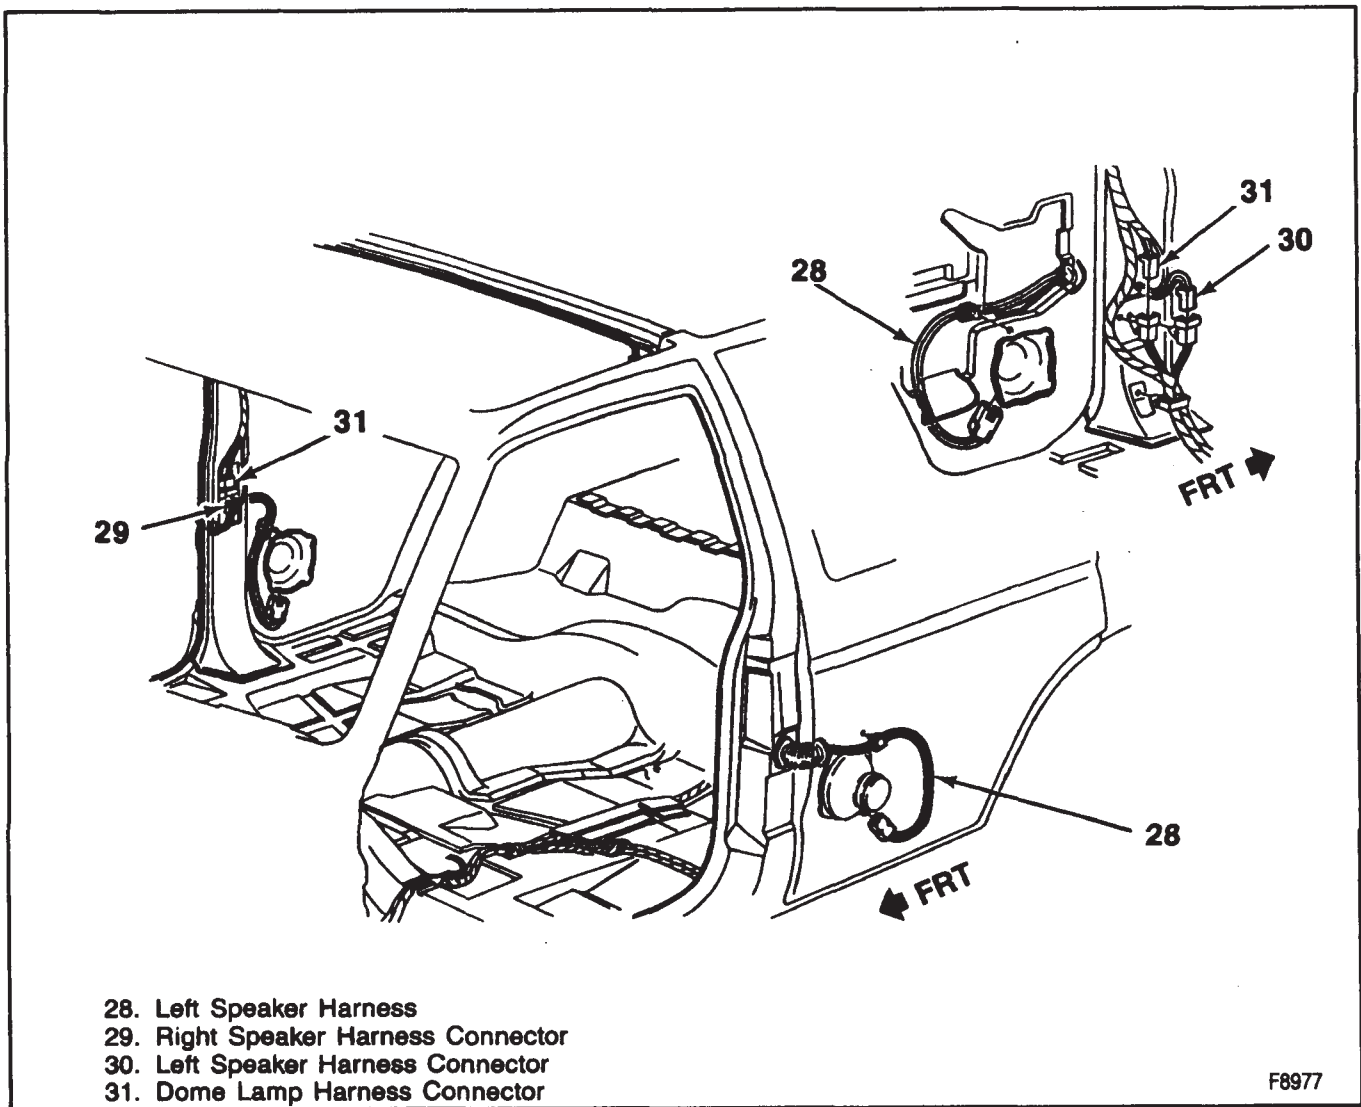

Figure 23—Rear Side Door Speaker Wiring (Four-Door Utility)
3. Insulator (27).
4. Mounting rivets (26).
5. Speaker (24) and speaker drip shield (25).
6. Speaker harness connector (29) (figure 23).
1. Speaker harness connector (29) (figure 23).
2. Speaker (24) and speaker drip shield (25).
3. Mounting rivets (26).
4. Insulator (27).